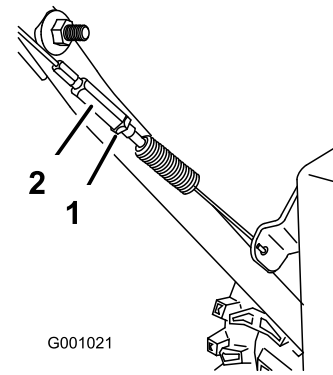

Figure 33
3. Tighten the jam nut (Figure 33).